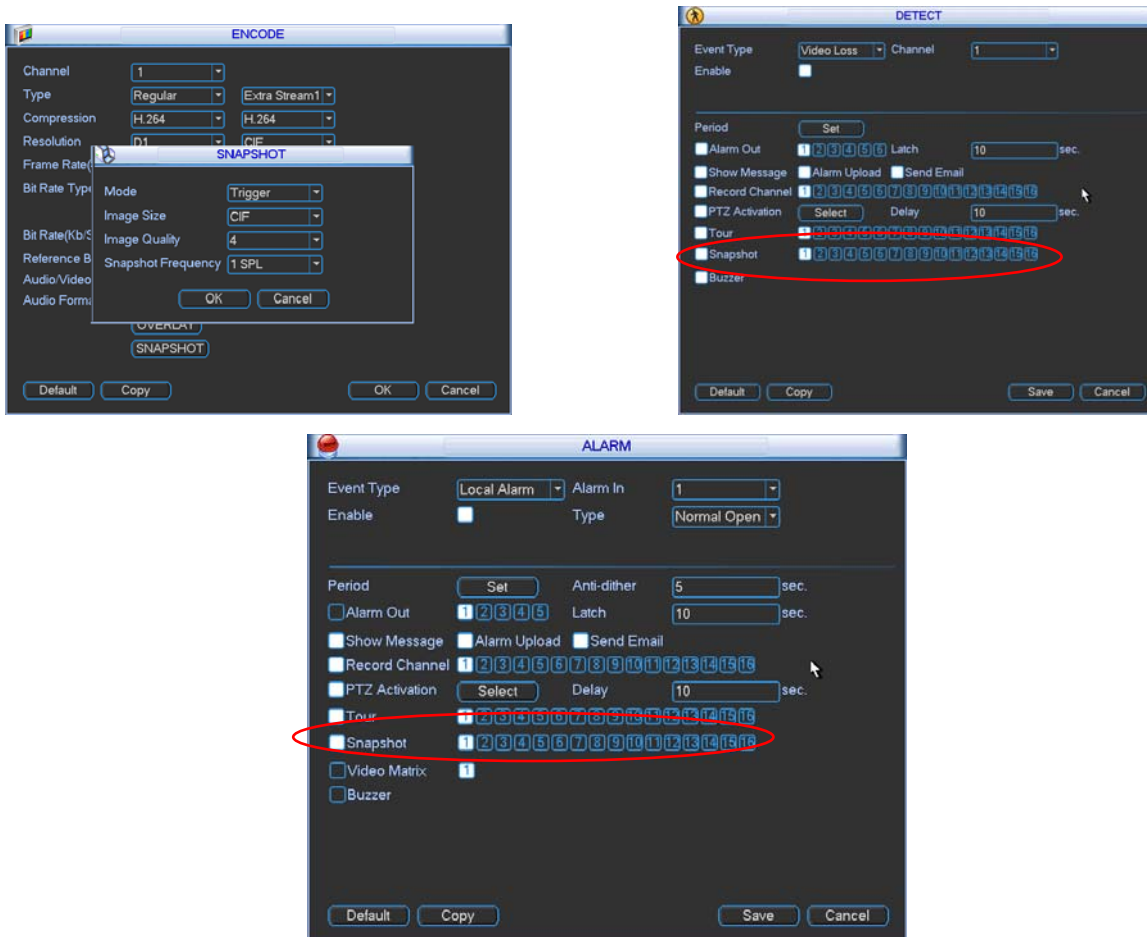

Figure 4-19
- In Encode interface, click snapshot button to input snapshot mode, size, quality and frequency. See the interface on the left of Figure 4-19.
- In Detect interface please enable snapshot function for specified channels (interface in the middle of Figure 4-19). Or in alarm interface (interface on the right of Figure 4-19) please enable snapshot function for specified channels.
Please refer to the following figure for detailed information. See Figure 4-19.